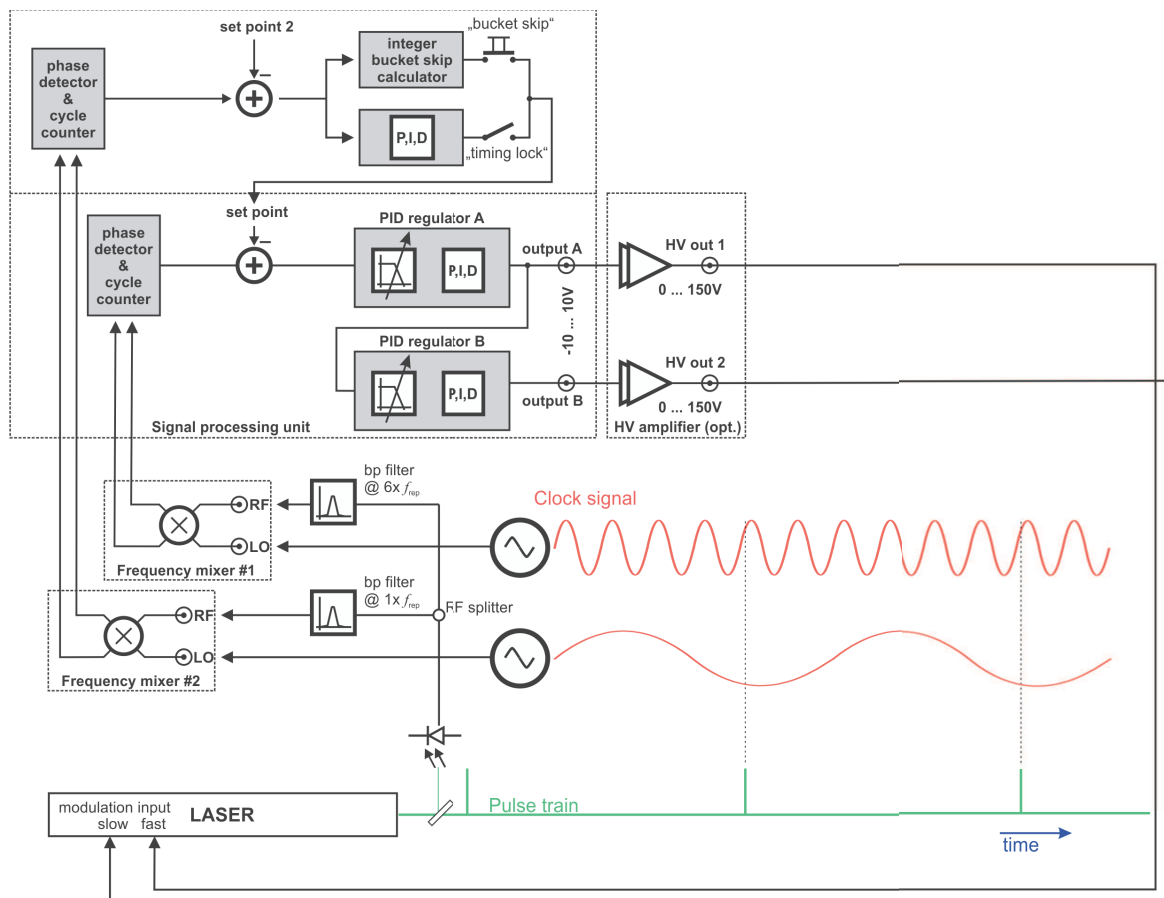

Figure 29: Determination of the time shift using a second phase detector at the fundamental frequency.
With the respective add-on, the PhaseLock can adjust the set point adjustment (or do the "bucket skipping") automatically, if a signal is available at the fundamental frequency. (This may be derived from the reference clock by a frequency divider, e.g.). In this case, a second mixer unit can detect the phase of the laser pulses with respect to that oscillation and determine the time shift (see figure 29).
- An algorithm determines the nearest integer multiple of the reference period to the time shift mismatch. This value is added to the locking set point upon explicit command (indicated as a key "bucket skip" in figure 29).
- A PID loop continuously alters the locking set point so that the time shift approaches the set point 2 (indicated as switch "timing lock" in figure 29).